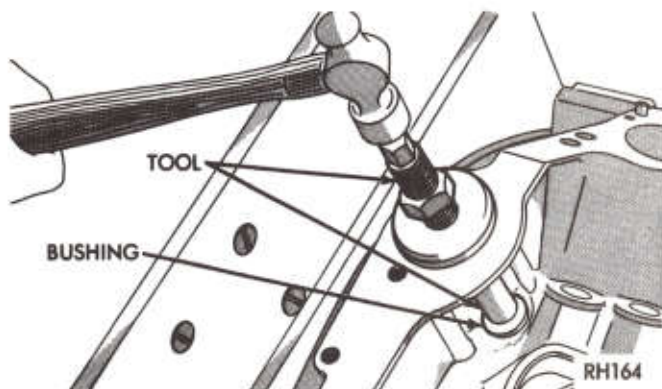

Fig. 38—Installing Distributor Driveshaft Bushing with Tool C-3053
(1) Slide new bushing over burnishing end of Tool C-3053 and insert the tool and bushing into the bore.
(2) Drive bushing and tool into position, using a hammer (Fig. 38).